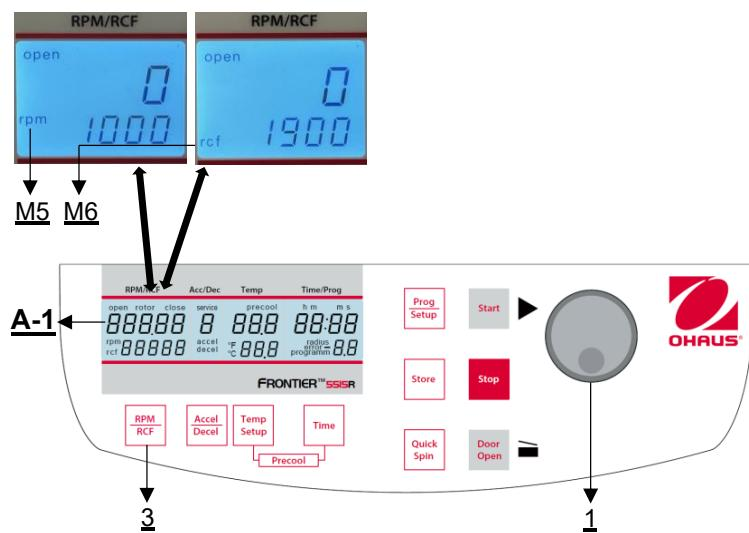

Figure 15
The pre-selection is activated through the key "**RPM | RCF**" (3) (refer to Figure 15). By pressing the key once the word "**rpm**" (M5) flashes. By pressing the key twice, the pre-selection of the centrifugal forces can be selected. Then the flashing word "**rcf**" (M6) appears. You can set the desired values with the adjusting knob (1). In the display (A-1) the regulated value is shown permanently, before, during and after the run.